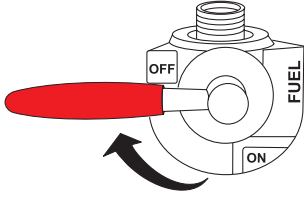

**Figure 31. Oil Filter**
1. Replace the engine oil filter (Figure 31) every 200 hours.